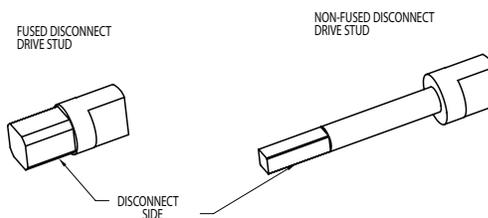

Figure 8A
1. Install drive stud into the disconnect switch side opening (fused or non-fused). Short drive stud is for fused disconnects; long drive stud for non-fused. See Figure 8A.